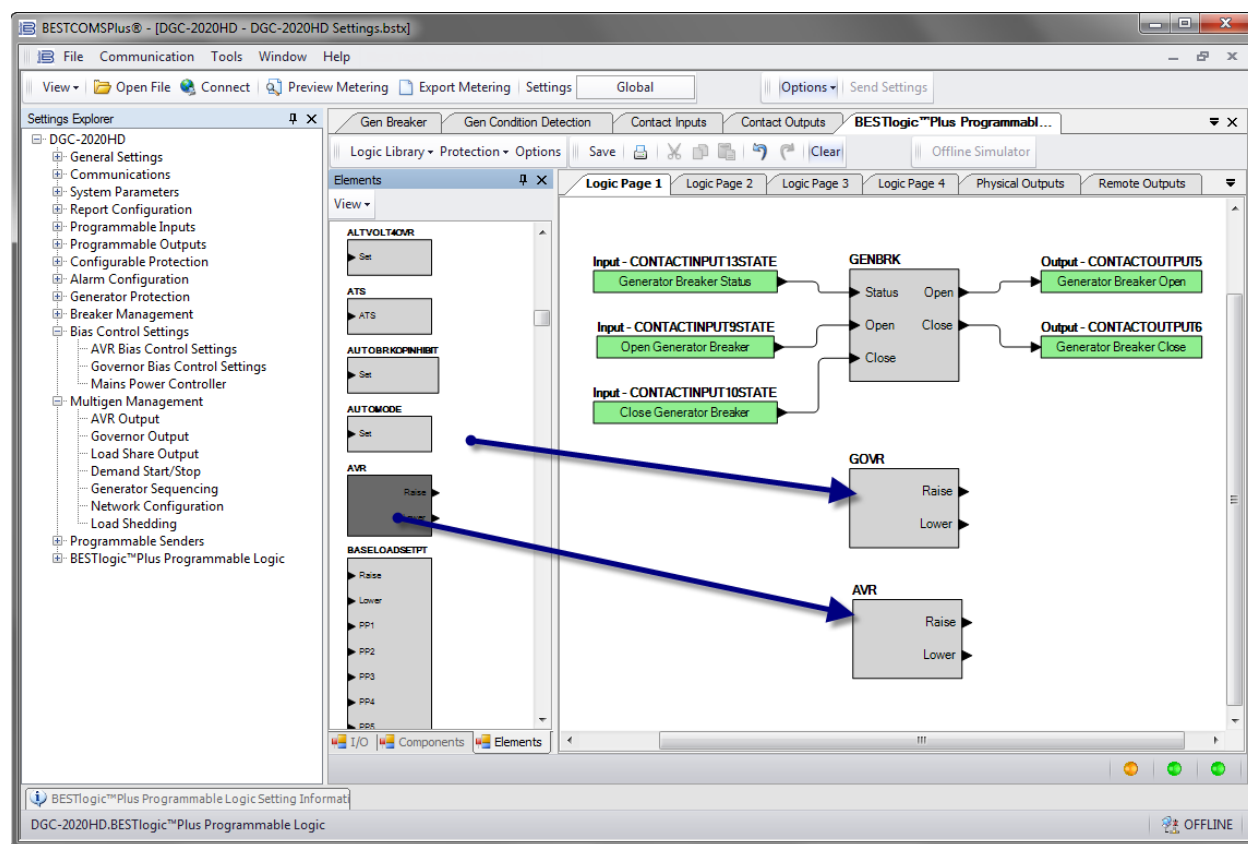

Figure 108. Synchronizer Setup in BESTlogicPlus Step 27
27. If using analog outputs to bias the voltage regulator and governor, no further setup is necessary. If using output contacts, they must be set up to drive these functions. In BESTlogicPlus programmable logic, click on the Elements tab. Drag the GOVR and AVR logic blocks into the main logic screen. See Figure 108.